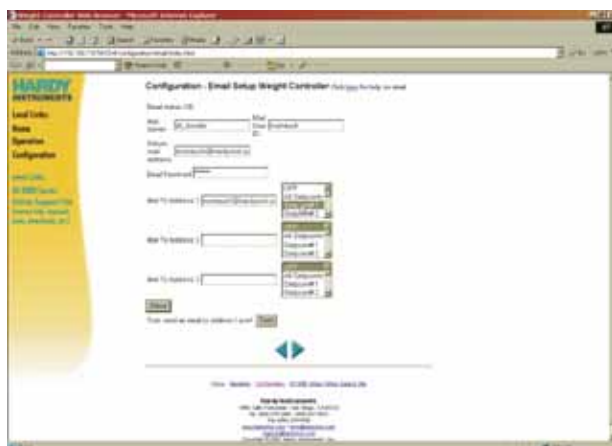

FIG. 298: E-MAIL CONFIGURATION WEB PAGE
Step 3. Click on Email. The E-Mail Configuration Web Page appears. (See Fig. 298)